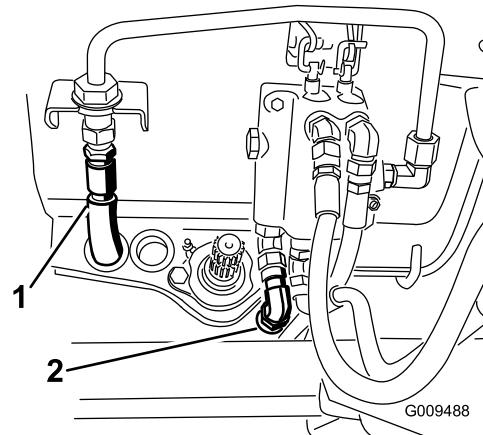

Figure 51
11. Connect the hydraulic pressure hose to the valve hard line and tank hose to the valve (Figure 51). Retain the hose plugs for the summer change over.